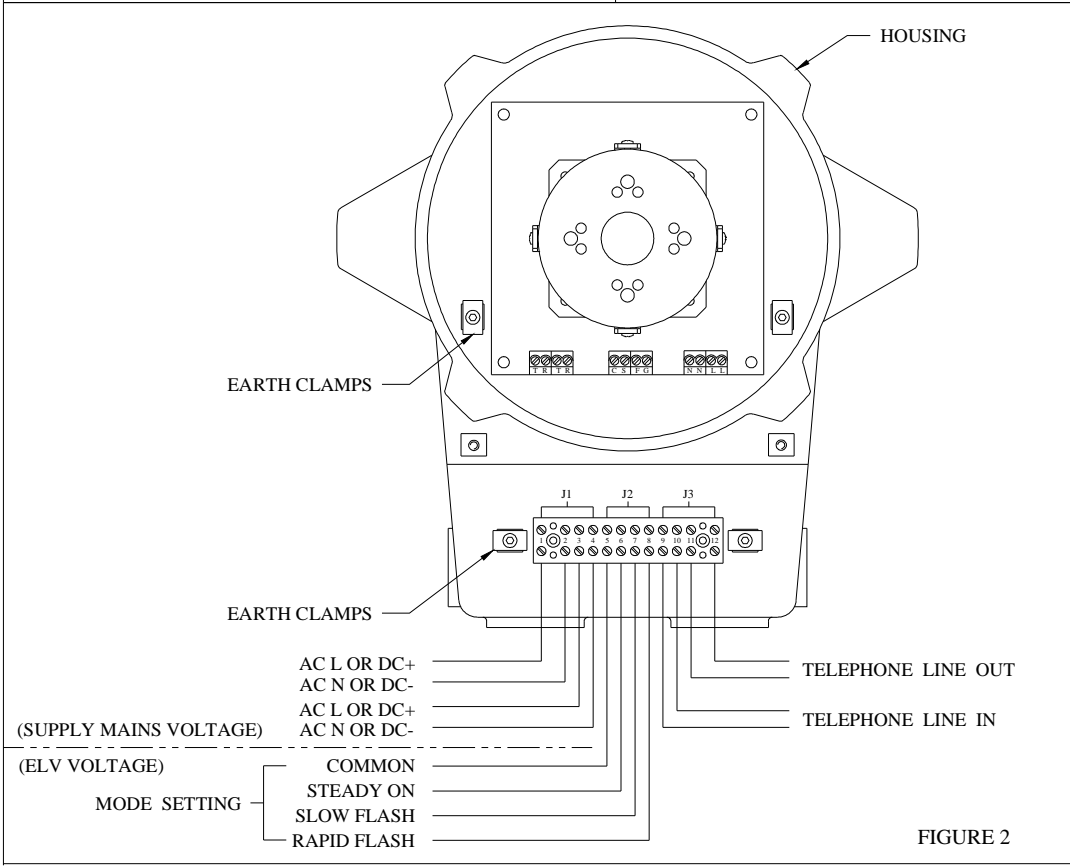

FIGURE 2
- e. A twelve-pole screw terminal block is provided for field wiring. See figure 2 for wiring diagram. These terminals are rated for the following wire ranges: 22-12 AWG (0.5 – 4 mm²). Terminal tightening torque is 0.5 – 0.7 Nm. The power feed through terminals of J1 are rated for 300V, 10 amps maximum. See section D for specific mode of operation wiring.